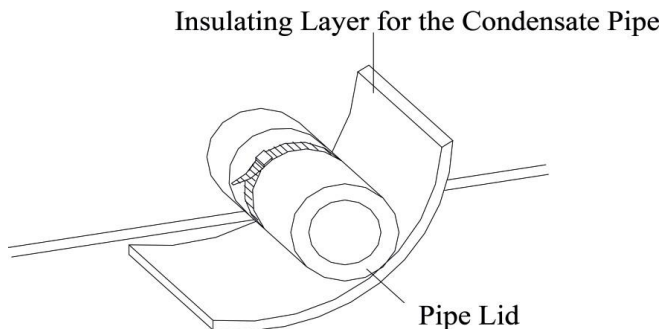

Fig.13 Thermal Insulation of the Condensate Pipe
- a. The condensate pipe should keep a inclination angle of  $5 \sim 10^\circ$ , which can facilitate the drainage of the condensate water. And the joints of the condensate pipe should be insulated by the insulation material to prevent condensing(see Fig.13).